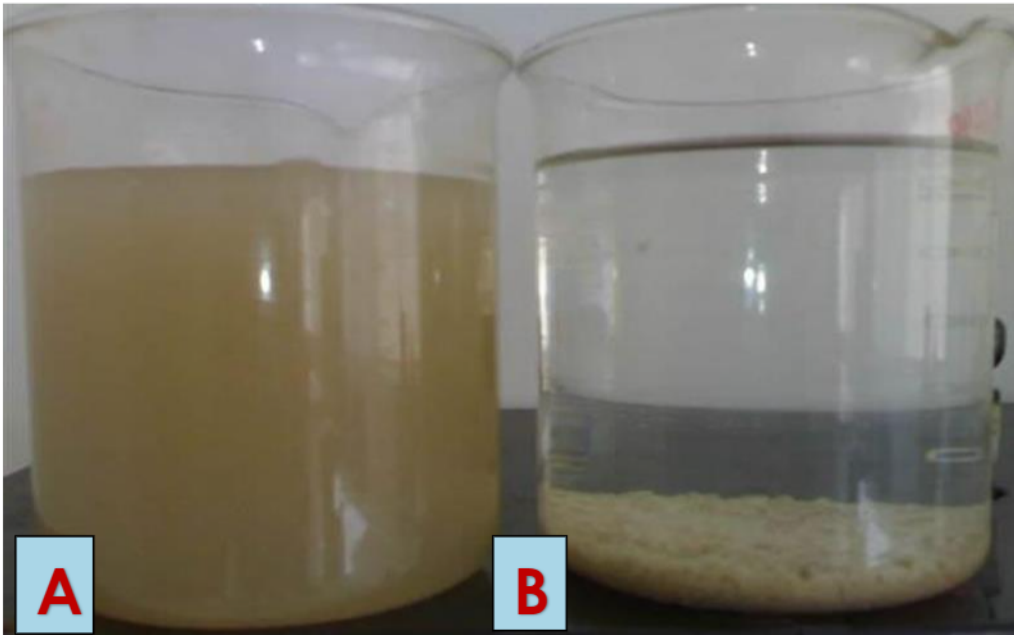

Figure 2: Beaker with wastewater before Alum was added (**A**) and after Alum was added and the solution allowed to settle (**B**).
3. Leave the mixture untouched for approximately fifteen minutes (see figure 2)